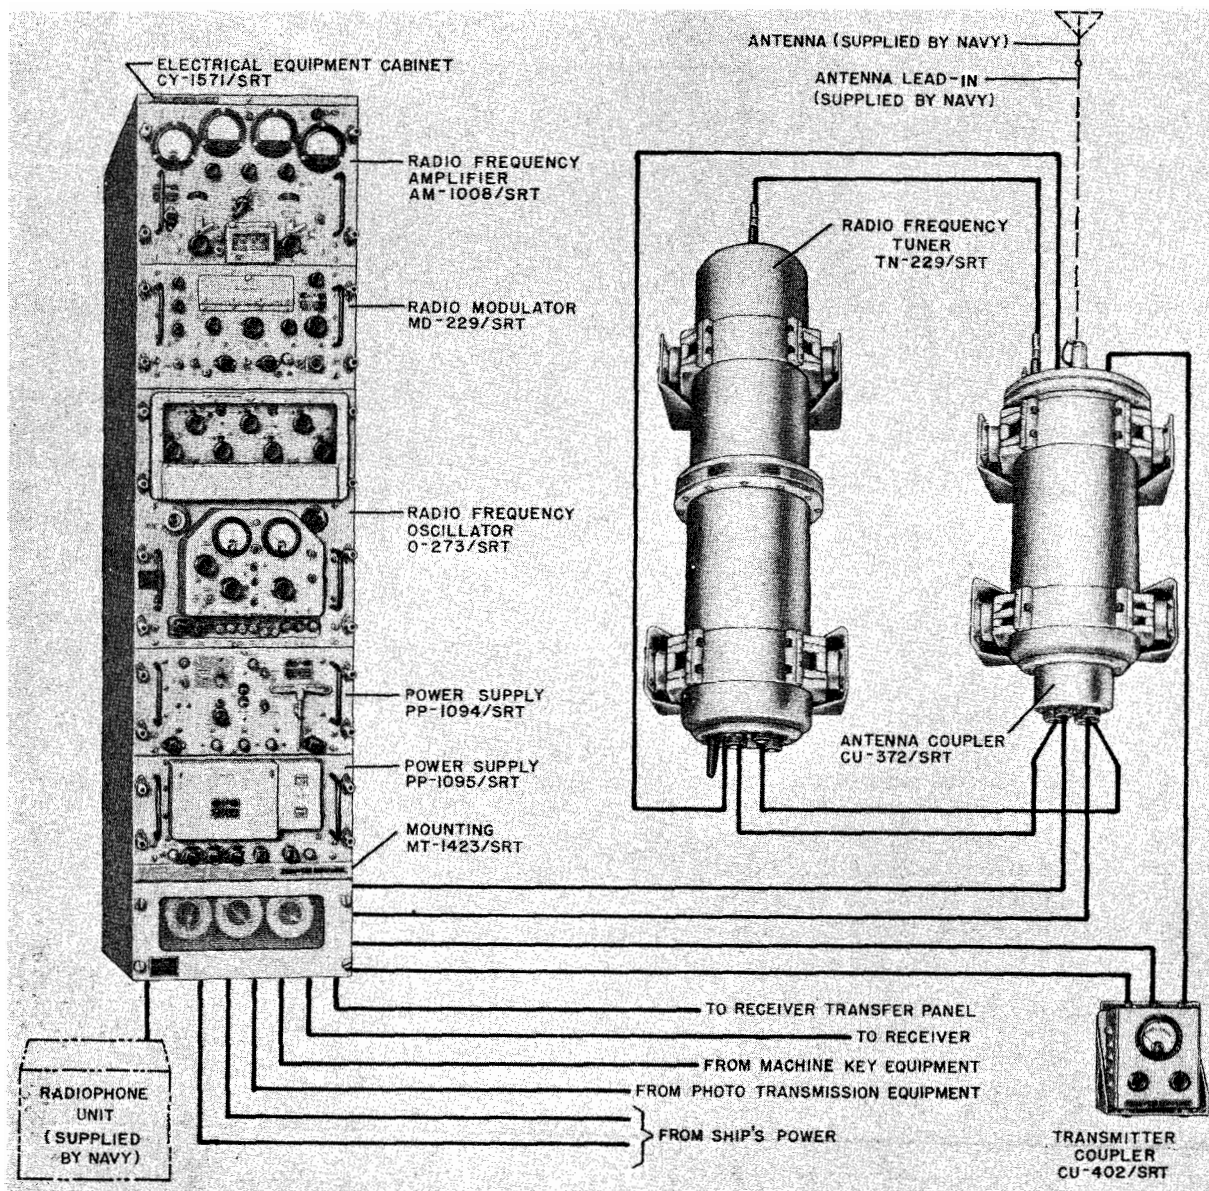

Figure 1-1. Radio Transmitting Set AN/SRT-14, Relationship of Units
a. GENERAL.—Radio Transmitting Sets AN/SRT-14, AN/SRT-15 and AN/SRT-16 are formed from a number of major components that are used like building blocks to assemble a set with desired features. Although the necessary differences exist in the interconnecting wiring of the transmitters, the major components forming each set are identical and interchangeable. Figures 1-1, 1-2, and 1-3 show the major components of the sets.
b. AN/SRT-14. (See figure 1-1.)—Radio Transmitting Set AN/SRT-14 consists of a 100-watt transmitter bay, antenna tuning equipment, together with spare parts. A radiophone unit and an antenna are required but are not furnished as parts of the set.
e. TRANSMITTER BAY.—Each AN/SRT-14, 15 and 16 set has a basic transmitter bay having identical and interchangeable units to accomplish 100-watt operation. The AN/SRT-15 and AN/SRT-16 transmitter bays have, in addition, identical and interchangeable modulator power units to accomplish 500-watt operation. The AN/SRT-14 transmitter bay consists of a transmitter group, a transmitter coupler, and a mounting (figure 1-1). The AN/SRT-15 transmitter bay consists of a transmitter group, a transmitter coupler,